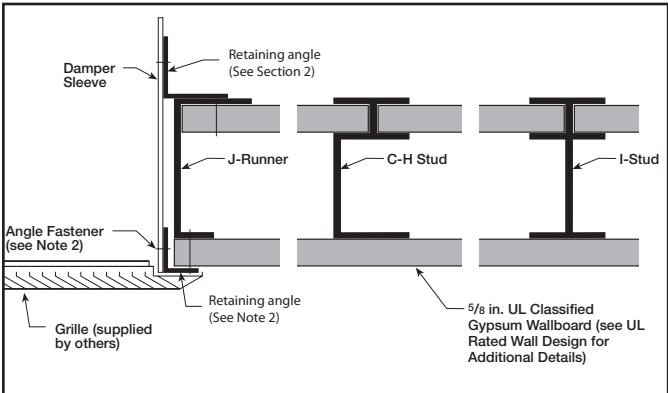
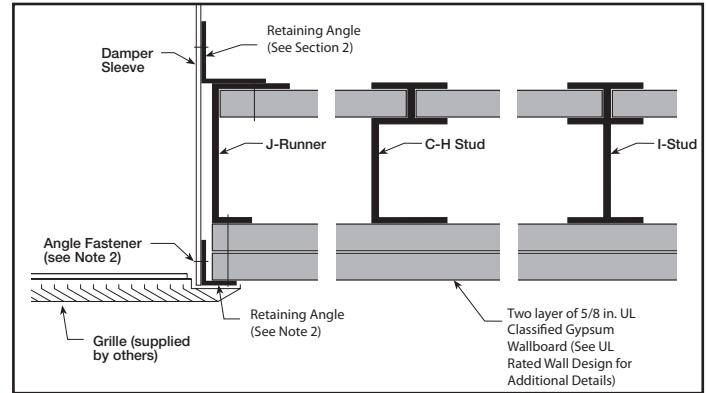

Figure 5: 1 Hour Shaftwall Rating
Figure 6: 2 Hour Shaftwall Rating
- Angle legs may be reversed and one leg inserted into the wall opening. Retaining angles used in conjunction with grille installations must be a minimum of 20 gauge (1 mm) steel and have a minimum of ⅝ x 1 in. (16mm x 25 mm) legs (See **Figure 5** and **Figure 6**).